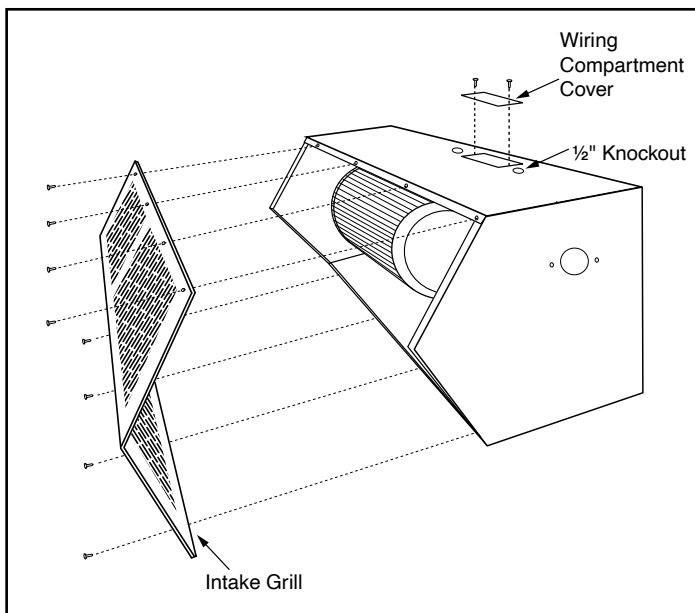

FIGURE 11
2. Remove the intake grille by removing all phillips head screws around edge. **See FIGURE 11.**